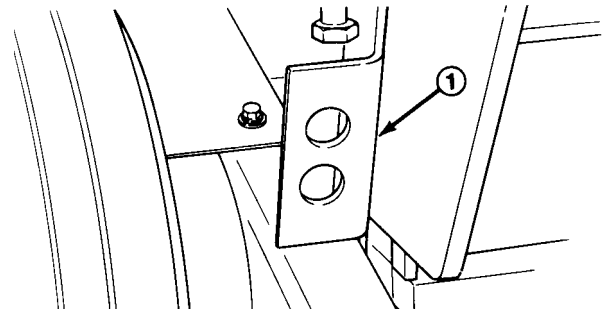

Figure 8
3. Stop the engine and raise the lock-up brackets on each side of the chassis (Fig. 8). Lower the coring head until it rests on brackets.
4. Loosen (2) hex nuts on each tine block until tines can be inserted. Insert tines until they bottom out on the flange in the tine block (Fig. 8).